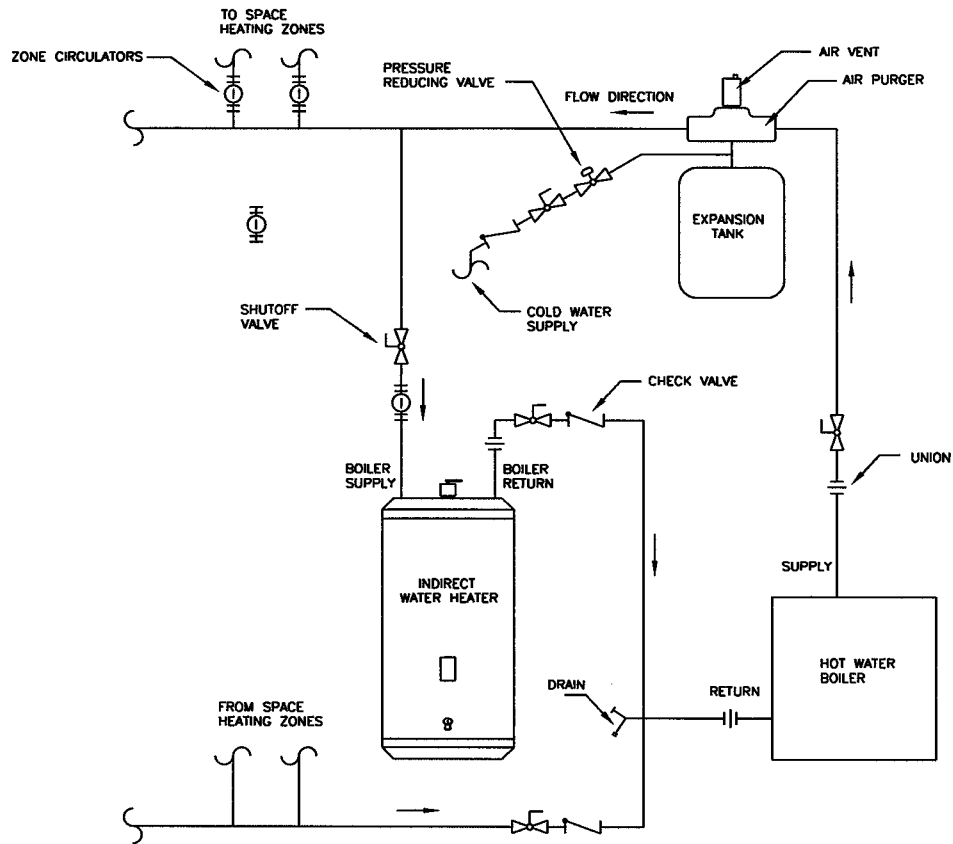
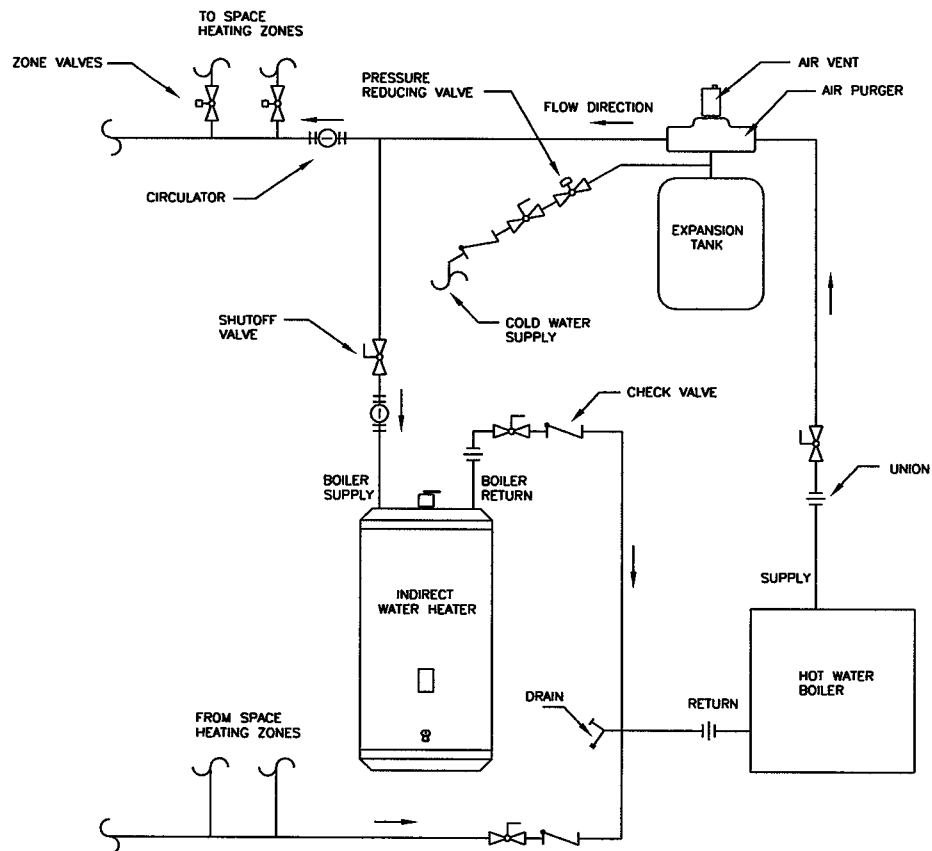

FIGURE 2 - BOILER WATER PIPING WITH ZONE CIRCULATORS
FIGURE 3 - BOILER WATER PIPING WITH ZONE VALVES
**B. Water boiler piping.** See Figures 2 and 3.
1. Determine where the boiler, the space heating, and the water heater connections should be made based on the type of piping system that is either in place, or is to be installed for a new hydronic system installation. See Figure 2, Boiler Water Piping with Zone Circulators, and Figure 3, Boiler Water Piping with Zone Valves.
For space heating systems that use Zone Circulators, refer to Figure 2. The water heater connection labeled "BOILER SUPPLY" should be piped to the boiler supply piping after the air purger and before the space heating takeoffs. Mount the water heater circulator as close as possible to the water heater, and make sure the flow arrow points toward the water heater. The use of shut-off valves is recommended for future service convenience.
For a space heating system that uses Zone Valves, refer to Figure 3. The water heater connection labeled "BOILER SUPPLY" should be piped to the boiler supply piping after the air purger and before the space heating circulator. Mount the water heater circulator as close as possible to the water heater, and make sure the flow arrow points toward the water heater. The use of a shut-off valve is recommended for future service convenience.